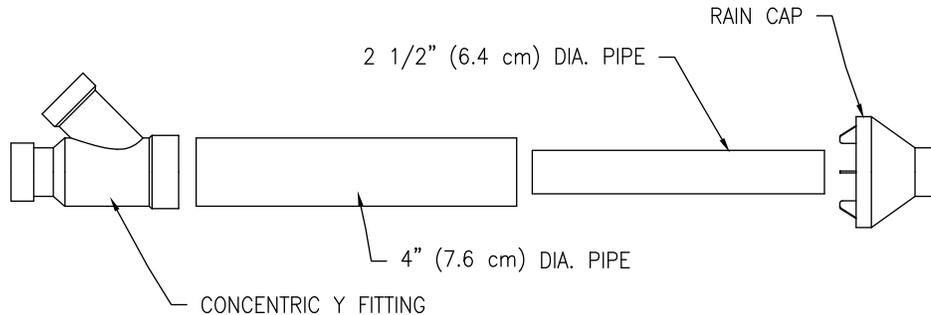
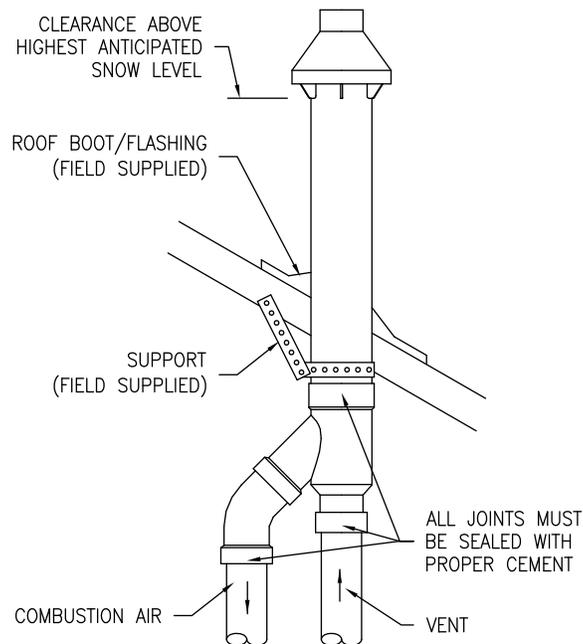

Figure 20. Concentric Vent Kit Part Identification
Figure 22. Concentric Vent Roof Top Attachment
- a. Cement concentric Y fitting to larger diameter pipe. (See Figure 20).
6. Secure assembly to roof structure as shown in Figure 22 using field-supplied metal strapping or equivalent support material.
Ensure termination height is above the roof surface or anticipated snow level. See Figure 22.
8. Cement heater combustion-air and vent pipes to concentric y fitting assembly (Figure 20). See Figure 22 for proper pipe attachment.
- Cement Y concentric fitting to larger diameter kit pipe. (See Figure 20).